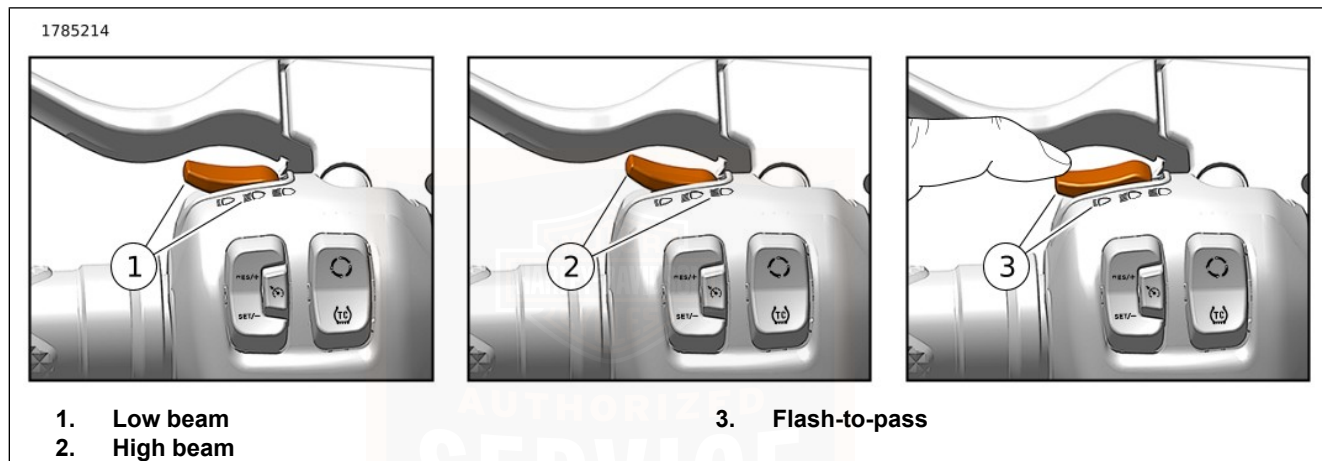

Figure 28. Headlamp Switch
High beam: See Figure 28. Push the headlamp switch up (2) to activate the high beam. The (blue) high beam indicator in the IFCU is lit when the high beam is on. Refer to Table 25.